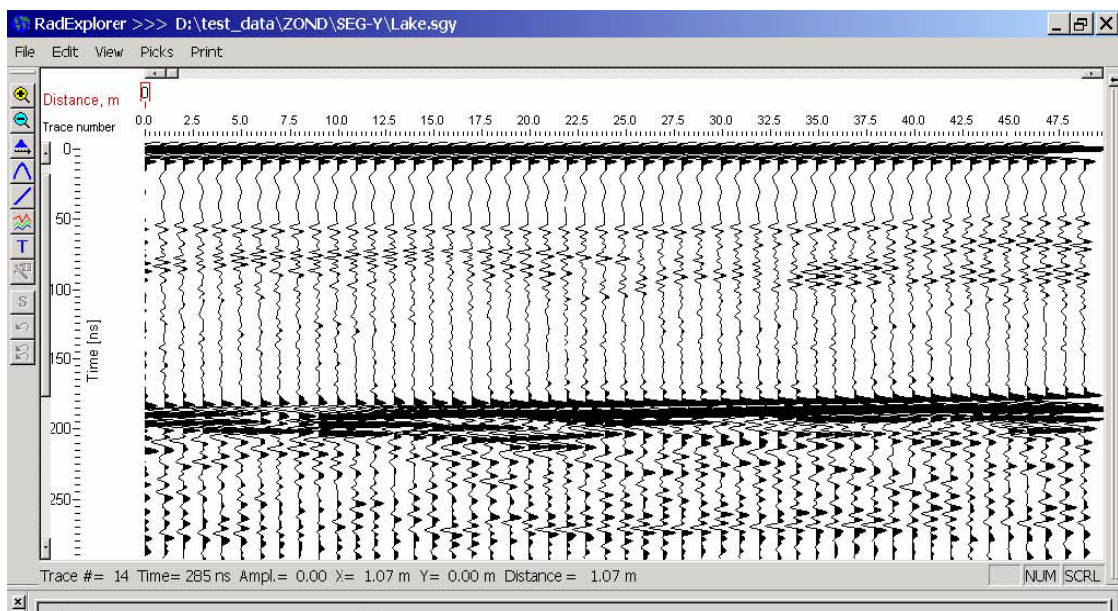

Fig. 5.4.8 Normalizing factor – “NONE”
- “None” – traces are displayed as they are, without any additional normalizing (see Fig. 5.4.8).